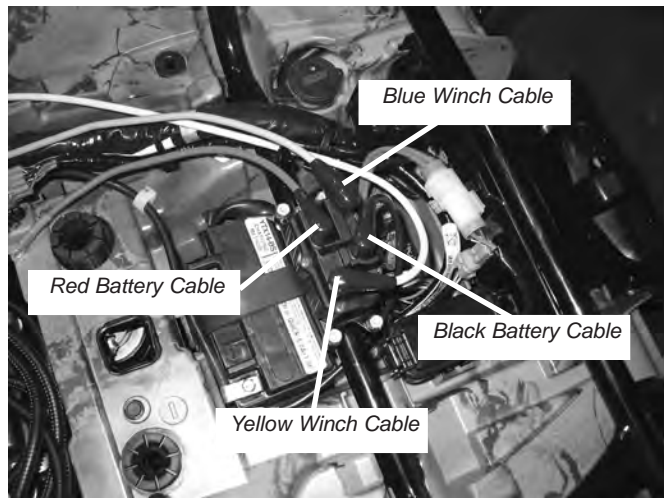

Figure 35 Electrical Cable Connections - Contactor
- c. Place the four remaining cable boots over the four electrical cables. Connect the blue, yellow, red, and black electrical cables to the corresponding contactor terminals, figure 35. Torque the terminal nuts on the contactor to 4.5 N-m (40 in-lb). Do not over tighten. Place the rubber boots into position over the terminals. Connect the green and black switch leads to the contactor at this time.